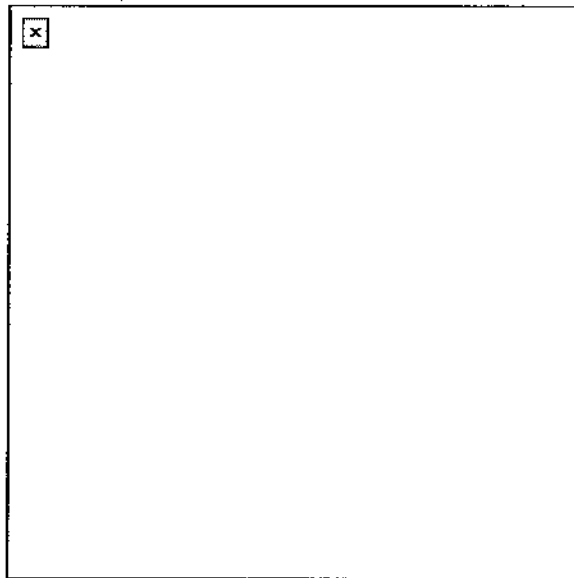

Figure 4. Movement past window.
(2) Always take care not to be silhouetted in a window (Figure 4).